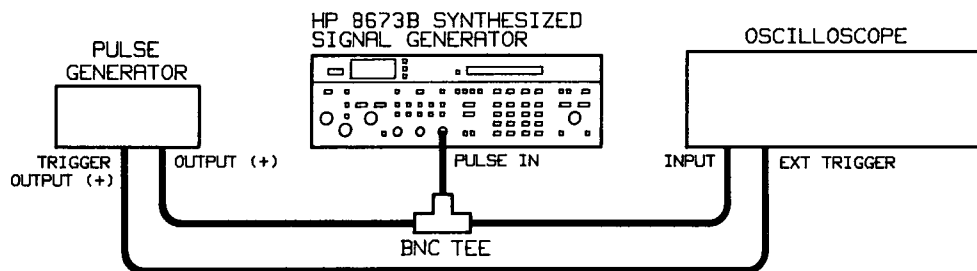

Figure 3-10. Pulse Modulation Functional Check Setup
44. Connect the pulse generator and oscilloscope to the Signal Generator as shown in Figure 3-10.